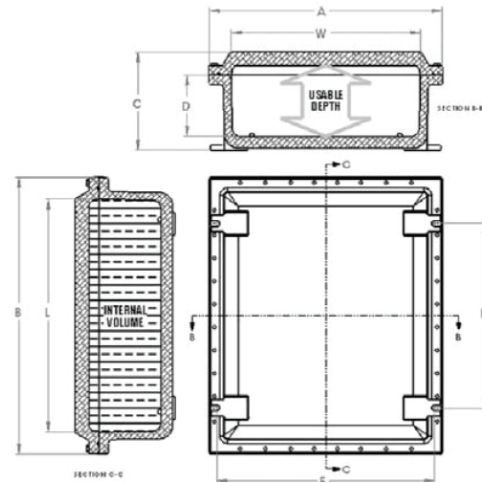

Figure 1
- Select a mounting location that will provide suitable strength and rigidity for supporting all contained wiring and control devices. Figure 1 shows the mounting dimensions.